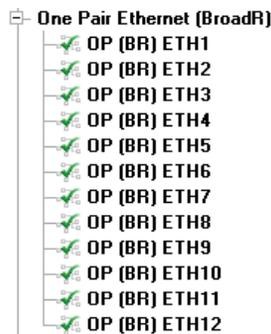

Figure 66: neoVI Explorer Automotive Ethernet Parameter Group.
This section of neoVI Explorer provides parameters to control the operation of the RAD-Galaxy's 100BASE-T1 (BroadR-Reach) Ethernet channels. Overall control parameters are found within the parent *One Pair Ethernet (BroadR)* entry, while those for individual 12 channels are located in the subordinate *OP (BR) ETHxx* entries, where *xx* varies from 1 to 12. The group as a whole can be seen in Figure 66.